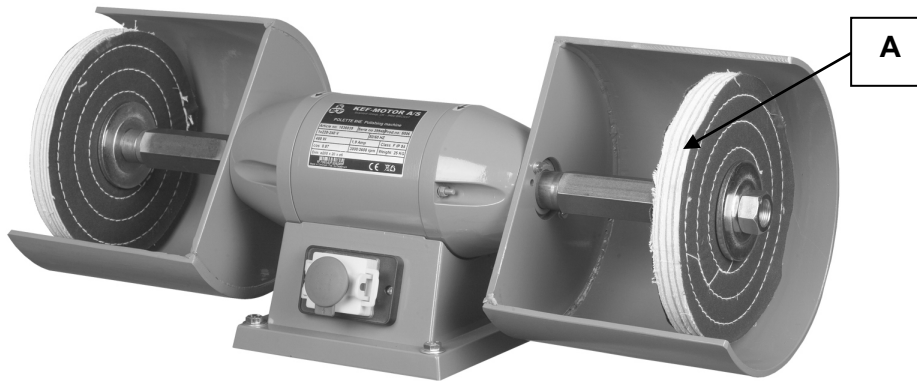

Fig. 2.4.1
Before use, check that the polishing wheels (A) (see *fig.2.4.1*) are screwed firmly to the shaft. The polishing wheel must be fitted during operation. The polishing wheel (A) must rotate freely without being loose.